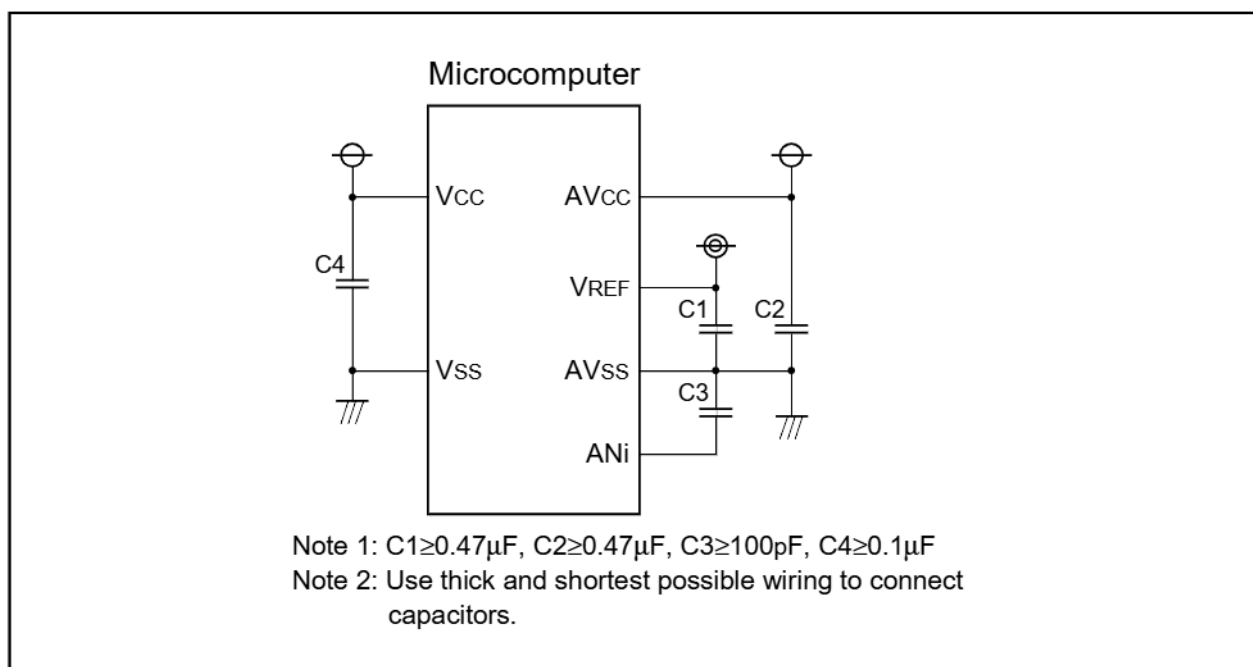

Figure 1.20.10. Example connection of VCC, Vss, AVCC, AVss, VREF and ANi
- (1) Set the direction register of the following ports to input: the port corresponding to a pin to be used as an analog input pin and external trigger input pin(P97).
- (2) In using a key-input interrupt, none of 4 pins (AN₄ through AN₇) can be used as an A-D conversion port (if the A-D input voltage goes to "L" level, a key-input interrupt occurs).
- (3) Insert the capacitor between AV_{cc} and AV_{ss}, between V_{REF} and AV_{ss}, and between the analog input pin (AN_i) and AV_{ss}, to prevent a malfunction or program runaway, and to reduce conversion error, due to noise. Figure 1.20.10 is an example connection of each pin.